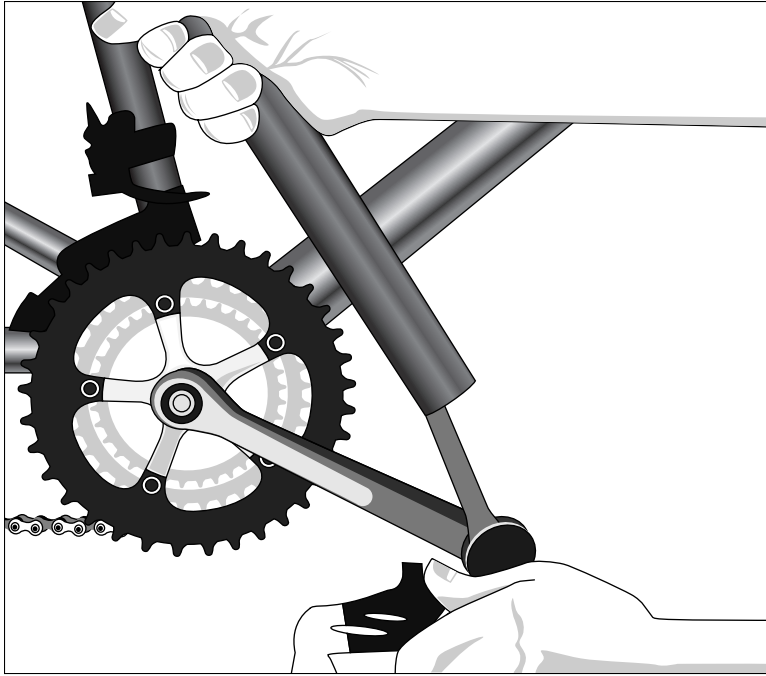

Figure 13-2:
- ✓ Slide a piece of pipe over the end of the wrench (as shown in Figure 13-2), effectively extending the length of the wrench, which will give you more leverage and increase the amount of force you can apply.